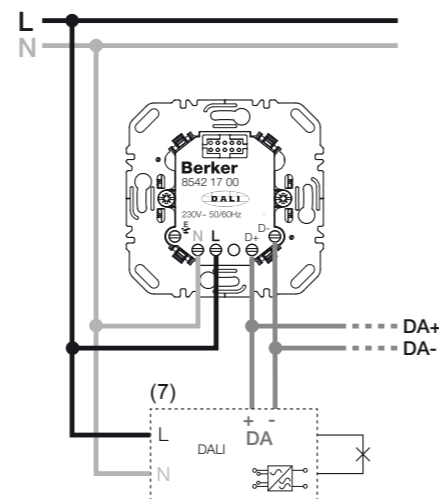

Figure 2: Connection diagram with connected mains voltage (active operation)
- Connect DALI/DSI control insert and optional extension units according to connection diagram (Figure 2 to 4).